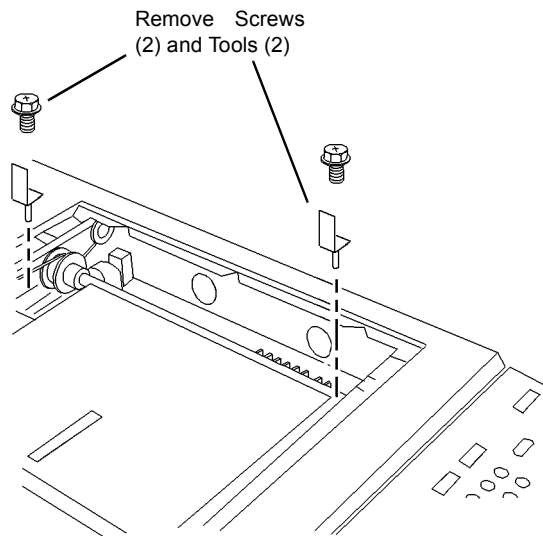

Figure 1 Removing Tools
2. Remove Alignment Tools (2) from Storage (Figure 1).